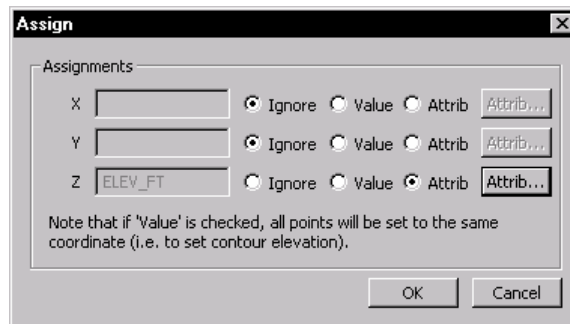

Figure 10.3: Assign Dialog
7. Press the *Assign*  button or select Edit | Modify Selected Feature(s) | Assign. Again “Warning No Space for Undo” appears Press OK to continue. Turn on the *Attrib* beside “Z” as shown in Figure 10.3.